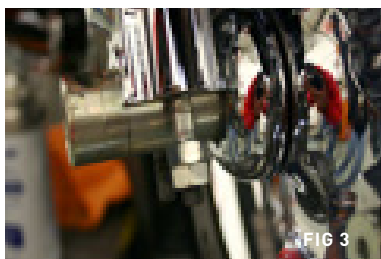

FIG 3
- c. Use the same procedure to remove the other stud. **(Fig 3)**